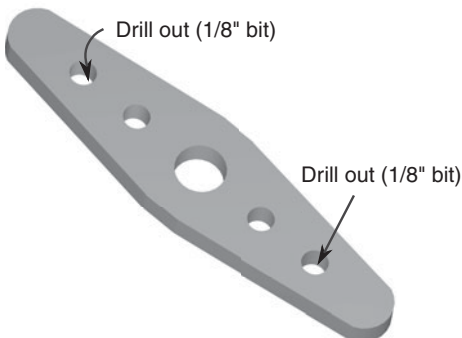

Figure 28-10 Drill out the holes in a servo horn for the base servo motor. For best results, pick holes in the horn that are about 1" apart.
1. Using the small round or double-arm horn that comes with your servos, use a 1/8" bit to drill out two holes on opposite sides for mounting screws (see Figure 28-10). Once drilled out, mark three holes on each end of the upper arm: the two holes you just drilled and the center hole for the servo screw. Place the marks on the flat ("bottom") of the U in the U-channel.